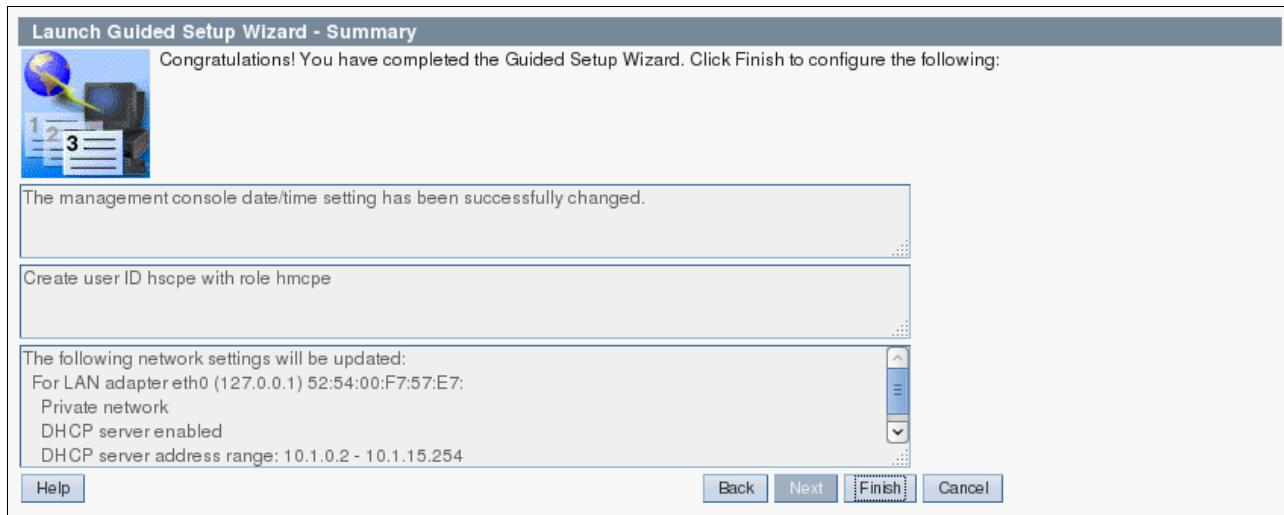

Figure 3-104 Summary panel
33. In the Summary panel (Figure 3-104), check that the configuration is done through the HMC guided setup wizard. Now you can click **Finish**.